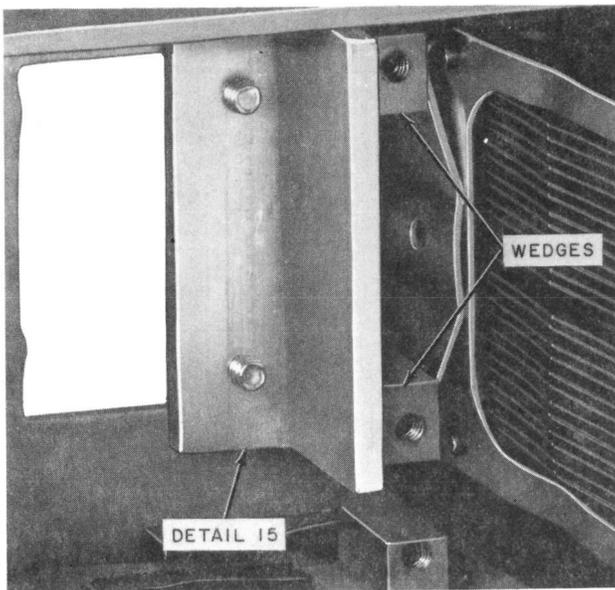

Fig. 20—Detail 15 Wedging Bracket in Place
- (a) Place detail 15 wedging bracket to the left of the defective relay (Fig. 20) so that the flat upright of the angle shall provide a backing for the details 20 through 30 wedges against